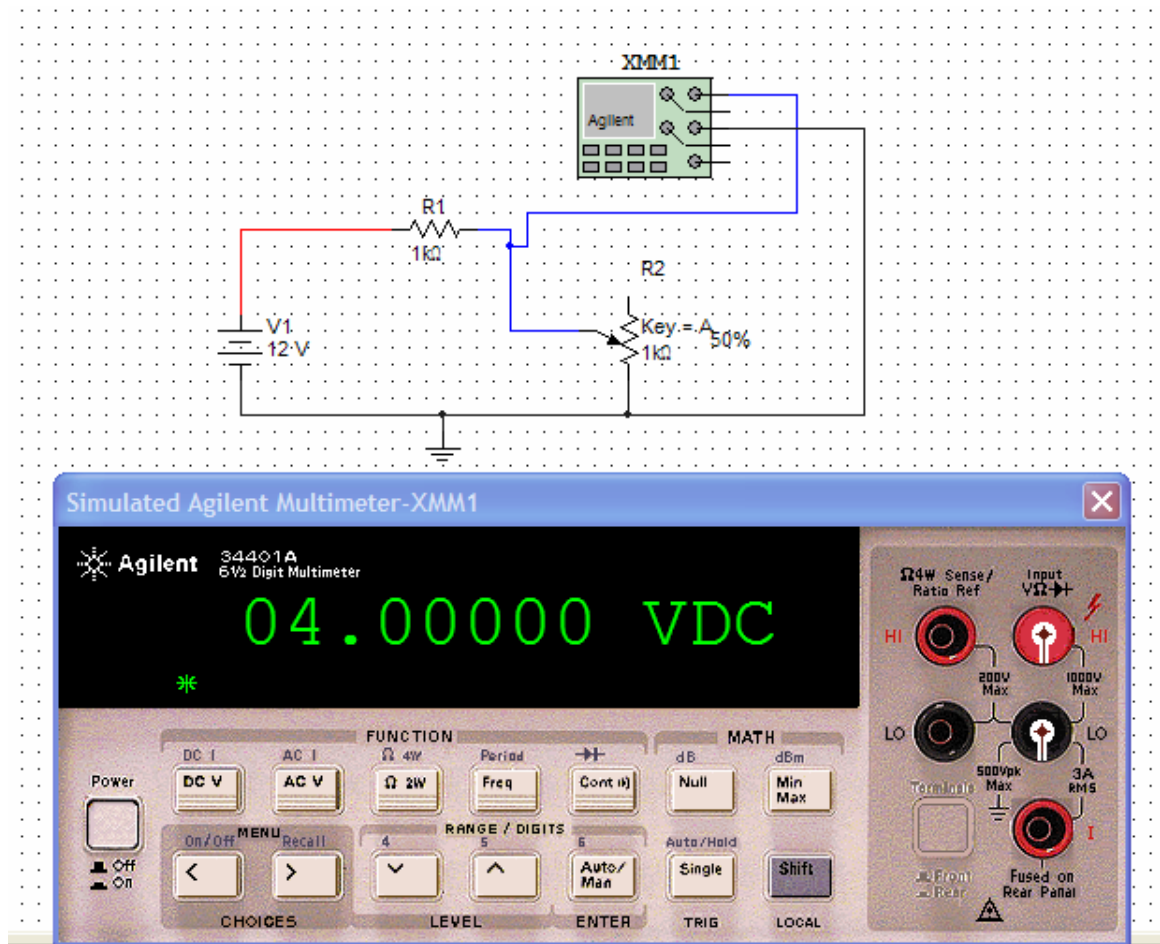

Figure 16. The simulation result
11. To simulate the circuit, Left-click the  button in the **Simulation Toolbar**. Figure 16 shows the result.